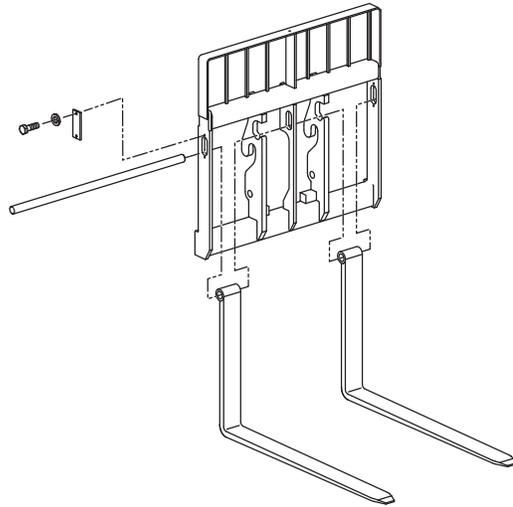

Figure 39 Changing Forks
3. Draw the bar out of the fork eye, being careful that the fork does not fall over, causing possible injury (see Figure 39).